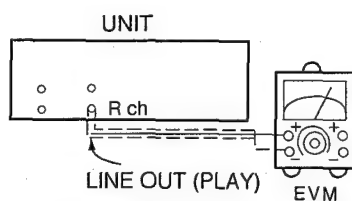

Fig. 1
Short the Test Mode terminals with a shorting clip. (Fig. 1)
(Fig. 1) Short with a shorting clip
1. Connect the measuring instrument as shown in Fig. 1.